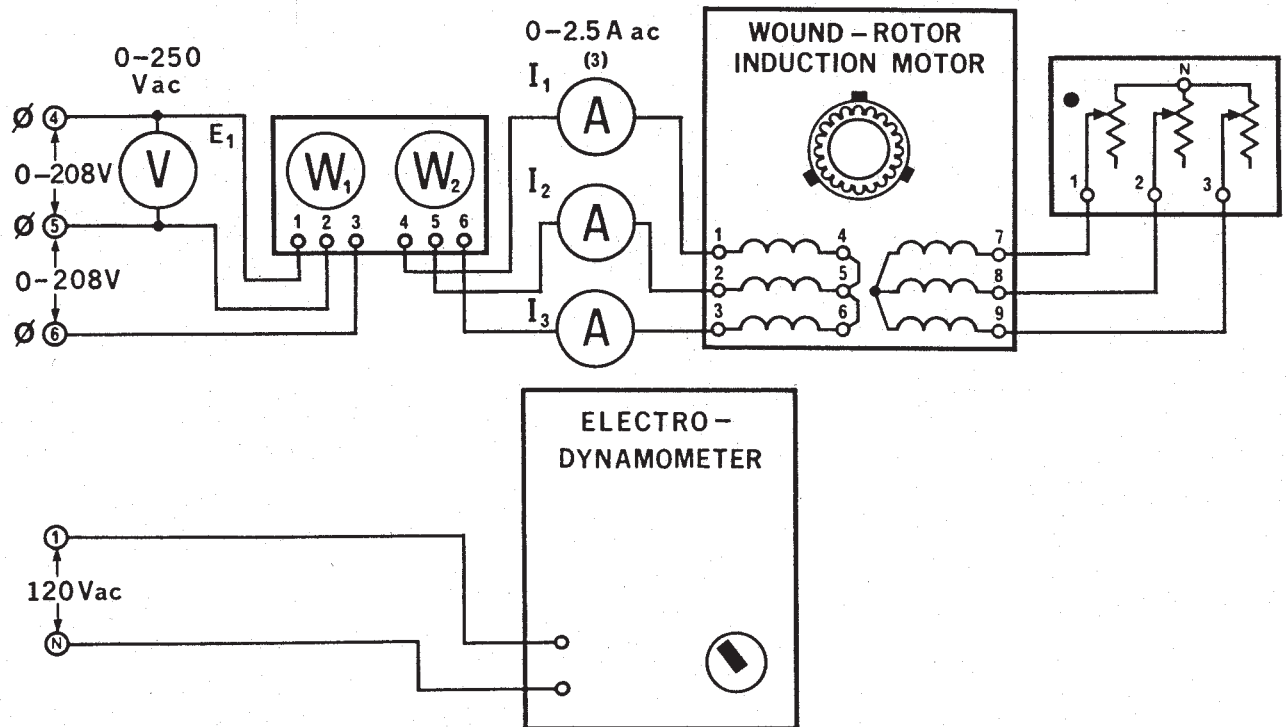

Figure 5-1.
- 2. Using your Three-Phase Wound-Rotor Induction Motor, Electrodynamicometer, Single-Phase Wattmeter, Three-Phase Rheostat, Power Supply, AC Ammeter and AC Voltmeter, connect the circuit shown in Figure 5-1. Do not couple the motor to the electrodynamicometer at this time!